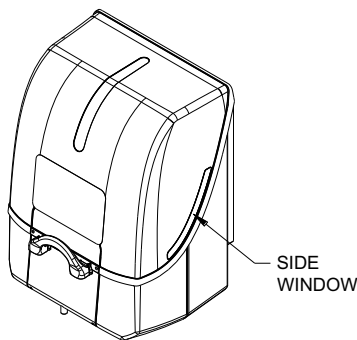

Figure 14
- 1) Visually inspect Cartridge status through Side Windows on Lid Assembly (Ref Figure 14).